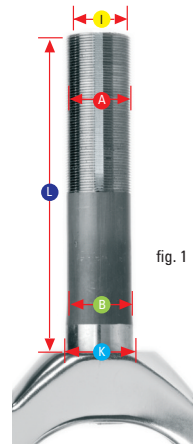

fig. 1
**Important dimensions when buying a fork (fig. 1)!**
The shaft diameter gives the outer diameter **A** in inches. The **inner shaft Ø** **I** of **threaded forks** is important for buying a **stem with shaft** (see chart). For **threadless** fork shafts, the **shaft outer Ø** is relevant for buying a **stem without a shaft**. Aluminium or carbon fibre fork shafts have a varying inner shaft Ø depending on the manufacturer (different wall thicknesses). Fig. 1 shows you how to measure the **shaft length**. **L** Fork shafts can **generally be cut**, but you have to ensure that thread shafts still have a **thread length** which is long enough to mount a **threaded headset** after cutting! Please see page 219 for how to calculate the required shaft length for your bike. See page 272 for further information.